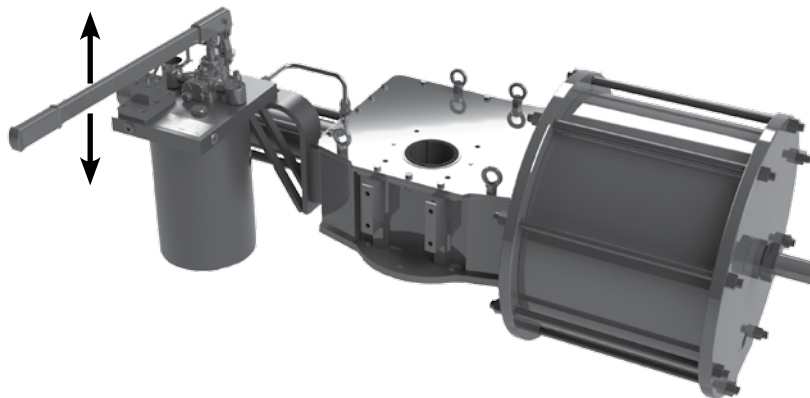

Figure 14 – Hydraulic Hand Pump Manual Override Installed on Double-Acting Actuator
- 3.1.3.1.4 To stroke the actuator in the close direction, switch the manual selector (4/2MV) to the CLOSE position indicated on its nameplate and operate the PMP manual hand pump, acting on the lever (Figure 14).
3.1.3.1.5 To stroke the actuator in the open direction, switch the manual selector (4/2MV) to the OPEN position indicated on its nameplate and operate the PMP manual hand pump, acting on the lever (Figure 14).